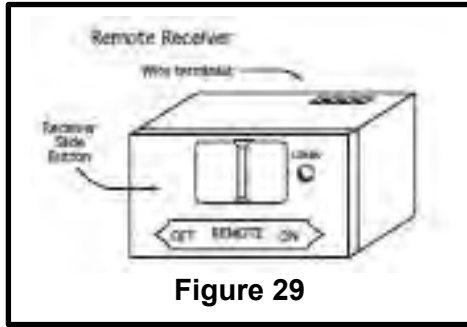

Figure 29
1. Slide the function button on the receiver to the REMOTE position (Figure 29).